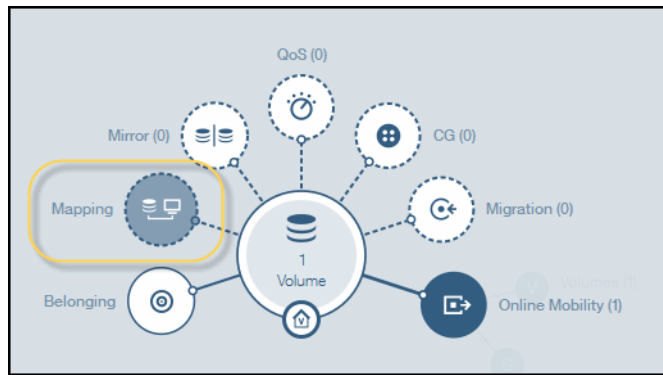

Figure 3-21 Selecting the Mapping spoke in the Hub display
- Now that the Proxy phase is successfully initiated, the newly created destination volume is ready to map to the host on the destination IBM FlashSystem A9000. Select the destination volume in the Volumes tab and choose the Mapping spoke in the Hub display on the right, as shown in Figure 3-21.